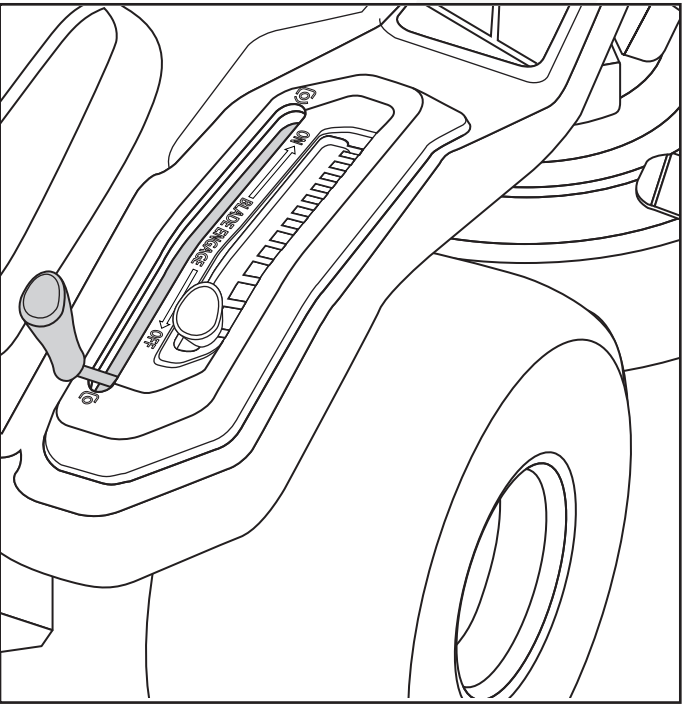

Fig. 23
- Move the lever all the way backward. (Fig. 23)